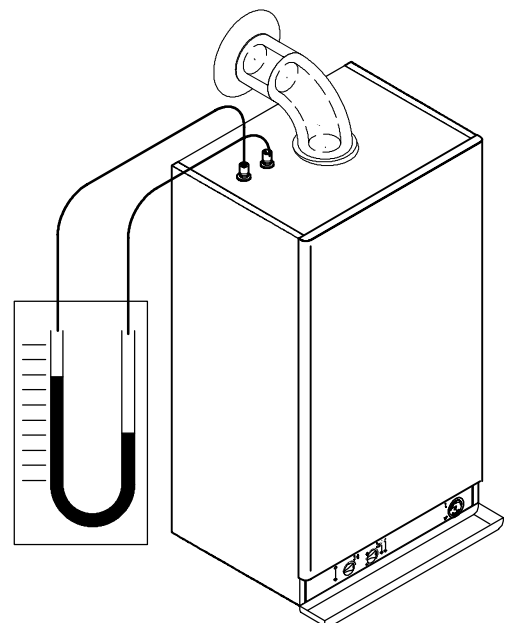

Fig. 67
- 1 Remove the caps of the pressure test points located on the top of the boiler and connect a differential pressure gauge (Fig. 67).